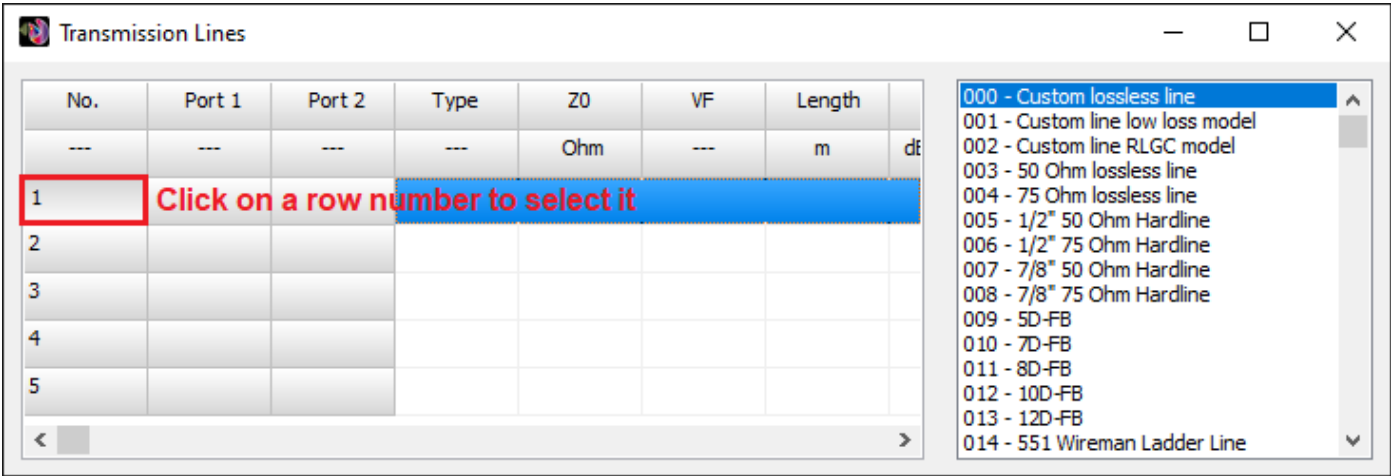

Fig. 2: Table for entering transmission lines. Rows are numbered. Click on a row number to select the entire row.
- 1. Select a row by clicking on the row number of your choice in the first column labeled 'No.', Fig. 2.